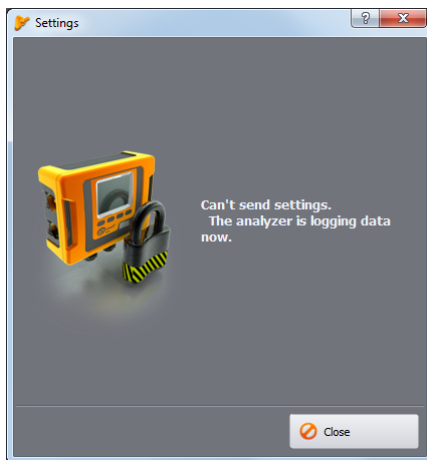

Fig. 18. Programming impossible due to recording in progress.
*Saving new settings in the analyzer is not possible when the device is in the recording mode (an appropriate message will be displayed to inform about this – Fig. 18).*